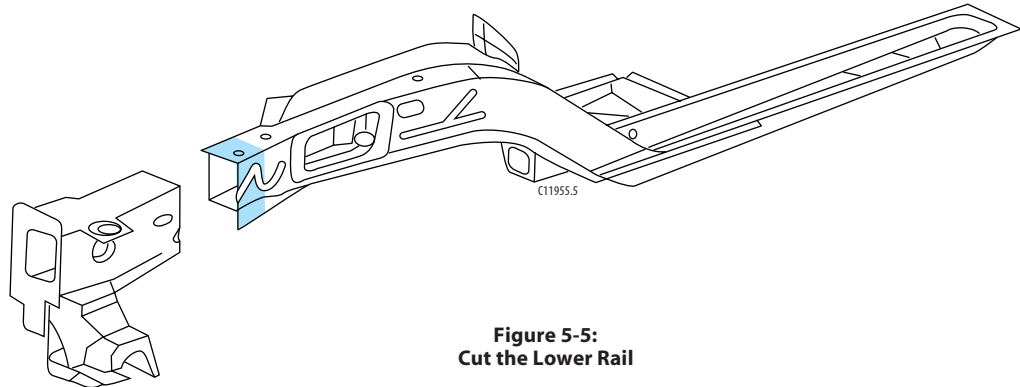

Figure 5-5:
4. Cut the rail along the marked lines and remove the damaged portion of the rail (figure 5-5).